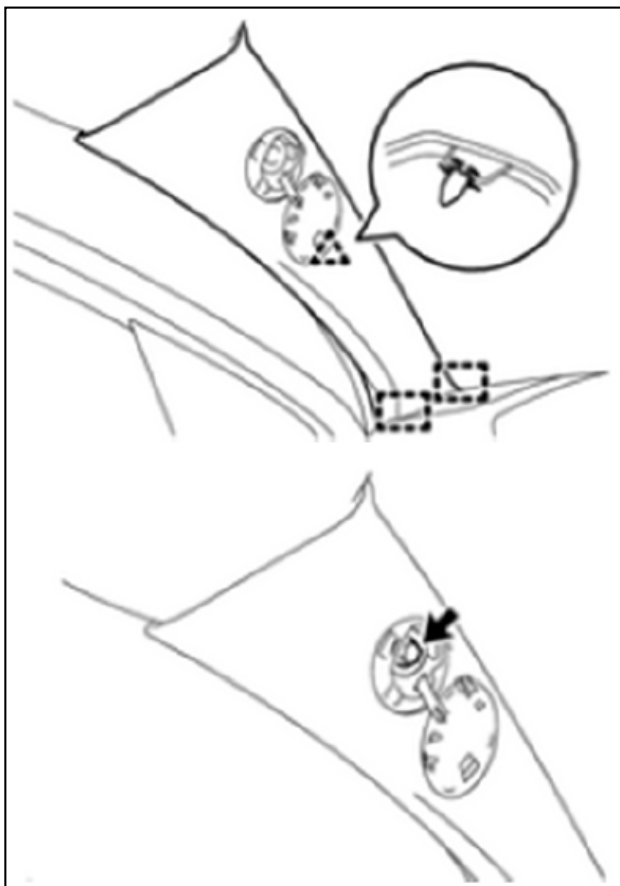

Figure 26a
27. Engage the 2 guides and clip to install the front pillar garnish LH. Install the bolt. Engage the 3 claws to close the cover. See Figure 26a and 26b.